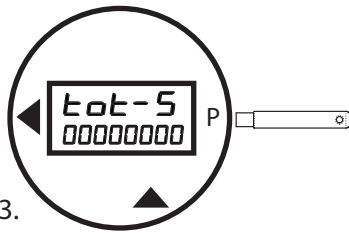

Figure 23.
- Pass the wand over the **P** until you reach the **tot-S** menu selection (Figure 23).